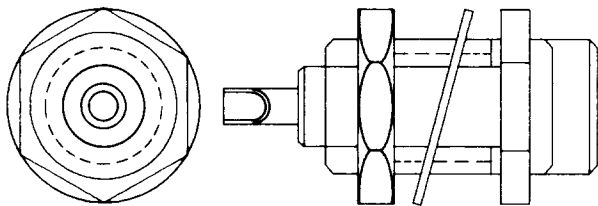

Fig. 9—KS-19893, L1 Connector
2.02 KS-19893, L1: The KS-19893, L1 (Fig. 9) is a miniature, 50-ohm, coaxial, screw-on, panel-mounted connector that is furnished with a lockwasher and hex nut for mounting. The KS-19893, L1, connector will mate with the KS-19759, L1 connector and is used in TD-3 radios.